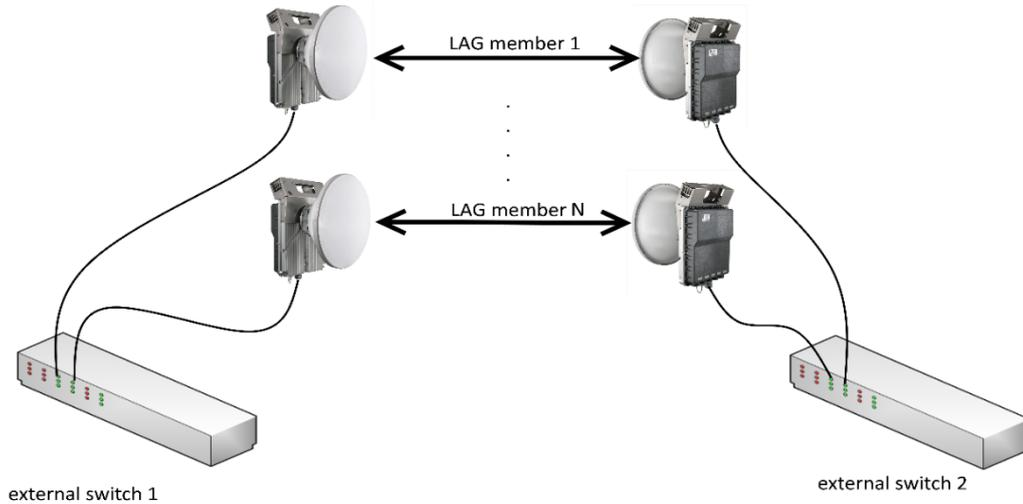

Figure 5-7 Link aggregation with LSP
For example, let's look at a time delay at LACP when detecting the fault of a LAG (Link Aggregation Group) member. Please see Figure 5-7 Link aggregation with LSP *Figure 5-7* below.
- 1) Check the management channel configuration – if the management is accessible only through the port with an enabled LSP, access to the radio will be lost. To avoid this, we recommend using a different port for the management when using LSP or Backup-Link functionality. Management cables are not shown in Figure 5-7.